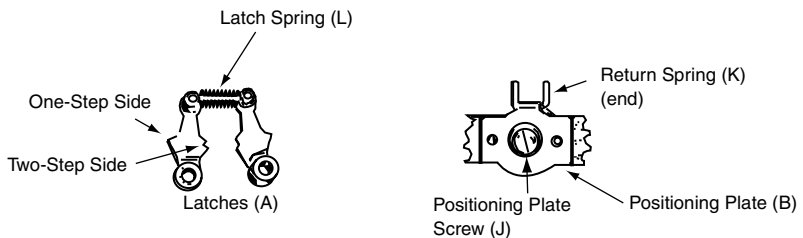

Figure 1: Latches and Positioning Plate – Detail Views
To change an operating sequence, first remove the base plate (E) from the switch. This provides access to the adjustable parts: positioning plate (B), return spring (K), and latches (A). See Figure 1.
- To adjust the positioning plate (B), loosen the positioning plate screw (J) and rotate the positioning plate (B) around the screw. Three notches are provided on each side, with the notches on the right hand side marked A, O, and B. When the proper notches are above the latch assembly post (M) (see “Location of Return Spring Positioning Plate” in Tables 1 and 2), press the positioning plate into place and retighten the positioning plate screw (J).
- To provide maintained contact action, loosen the positioning plate screw (J) and remove the positioning plate (B) from the device. Remove the return spring (K) from the back of the positioning plate (B), and replace the positioning plate (B) to hold the latch assemblies in position. Retighten the positioning plate screw (J).
- To access the latches (A) remove the positioning plate (B). Each latch has a one-step side and a two-step side, as shown in Figure 1. If the “Latch Position” column in Tables 1 and 2 calls for:
- A one-step position: Place the latches (A) on the latch assembly posts (M) with the one-step sides closer to the center of the switch.
- A two-step position: Install the latches (A) on the latch assembly posts (M) with the two-step sides toward the center of the switch.